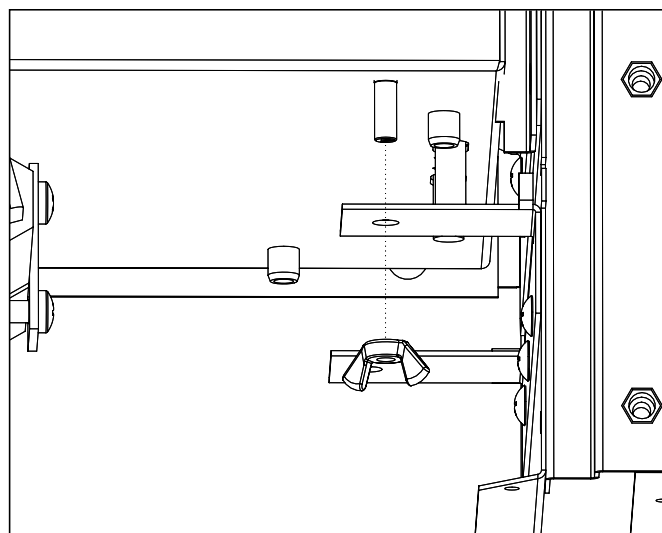

FIG 33 Securing the burner bed
5. Remove the 2 M5 wing nuts from under side of burner. Lift the burner assembly upward and carefully remove from the burner chamber. Refer **FIG 33**